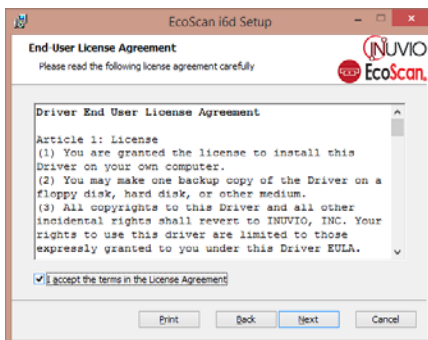

Fig. 3
- Accept the EULA agreement then click the “Next” button (Fig. 3).